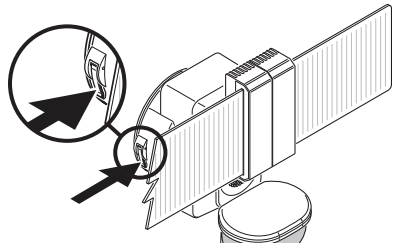

Figure 7
7. Press down on the locking handle completely to secure the light fixture to the mounting plate (see Figure 7).